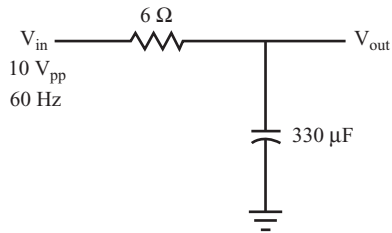

FIGURE 6.30
**24** Using the component values and input signal shown in Figure 6.30, answer the following questions.